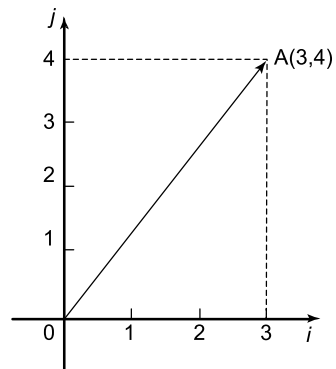

Figure 4.3
- (vi)  $xi + jy$ , where  $i$  and  $j$  are axes at right-angles to each other; for example,  $3i + 4j$  means 3 units in the  $i$  direction and 4 units in the  $j$  direction, as shown in Figure 4.3.
- (vii) a column matrix  $\begin{pmatrix} a \\ b \end{pmatrix}$ ; for example, the vector  $\overrightarrow{OA}$  shown in Figure 4.3 could be represented by  $\begin{pmatrix} 3 \\ 4 \end{pmatrix}$
Thus, in Figure 4.3,